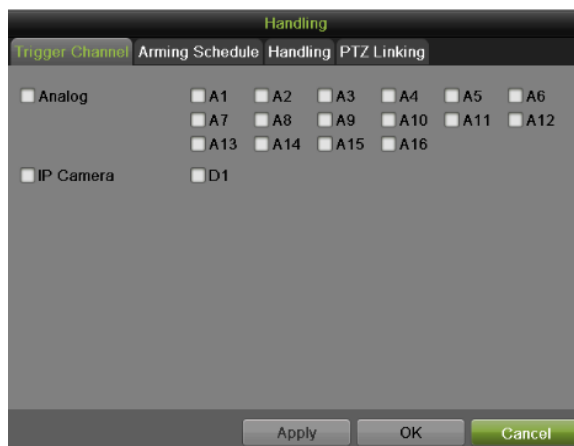

Figure 94 Trigger Channel Settings Menu
7. Click Handling Set to pop-up the Handling menu, as shown in Figure 94.